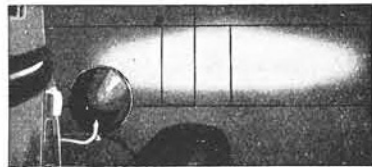
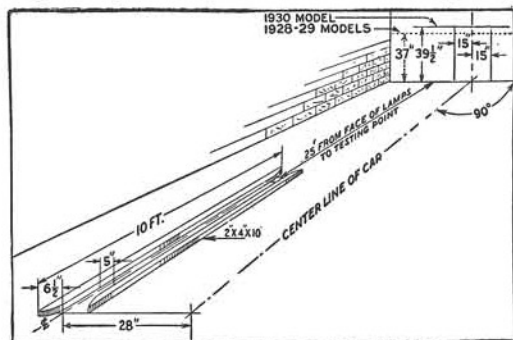

Fig. 31. Right headlamp properly focused and aligned.
Fig. 33. Shop layout for focusing and adjusting headlamps.
Align and focus headlamps with empty car standing on a level surface in front of a white wall or screen 25 feet from front of headlamps. This wall must be in semi-darkness or sufficiently shielded from direct light so that the light spots from the headlamps can be clearly seen. The wall must be marked off with black lines as shown in Figs. 31 and 32. Details for making the layout are shown in Fig. 33.
3. Focus by means of screw at back of lamps, first one lamp and then the other, adjusting the bulb filament at the focal center of the reflector to obtain an elongated elliptical spot of light on the wall, with its long axis horizontal (see Fig. 31). In focusing, adjust the bulb to obtain as good contrast and as well-defined cut-off across the top of the spot of light as possible.
above level of surface on which car stands. (See Fig. 33.) With tops of bright spots thus set for empty car, the headlamps comply, under all conditions of loading, with the requirements of the various states.